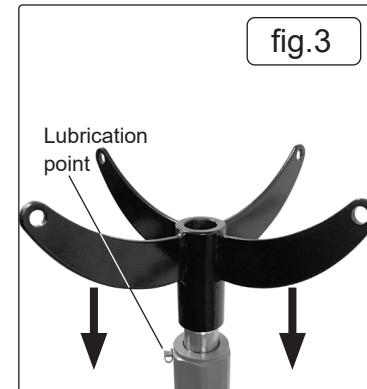

fig.3
- 5.5. Attach the saddle to the top of the piston rod, ensuring it is secure. Fig.3.